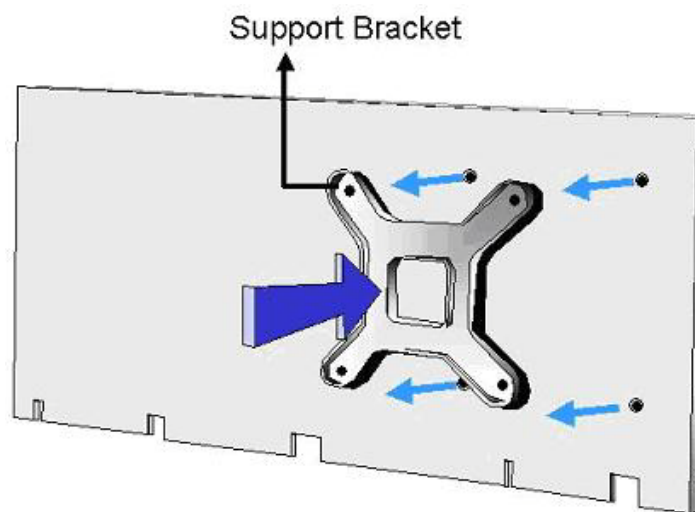

Figure 4-4: Cooling Kit Support Bracket
- Step 3:** Secure the cooling kit. From the solder side of the PCB, align the support bracket to the screw threads on heat sink that were inserted through the PCB holes. (See **Figure 4-4**)
To install an SO-DIMM, please follow the steps below and refer to **Figure 4-4**.
- Step 3:** **Insert the SO-DIMM.** Push the memory in at a 20° angle. (See **Figure 4-4**)
- Step 4:** **Seat the SO-DIMM.** Gently push downwards and the arms clip into place. (See **Figure 4-4**)